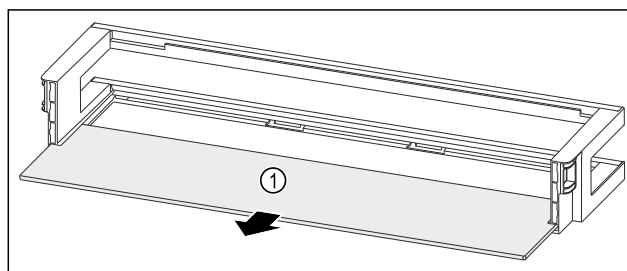

Fig. 194 Door rack with shelf
- Remove the shelf Fig. 194 (1).